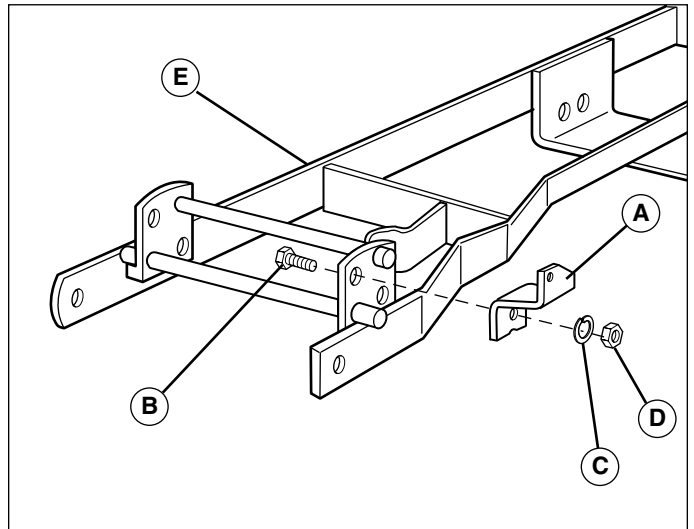

Figure 12. Spring Assist Bracket
1. See Figure 12. Assemble the spring-assist bracket (A) to the hitch assembly (E). Secure with capscrew, lockwasher, and nut.